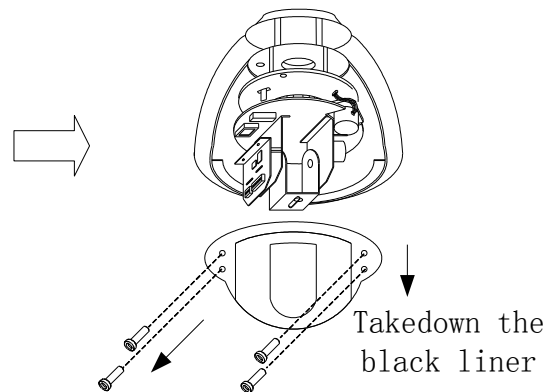

Figure 7
3. Take out the black liner. (Figure 7)